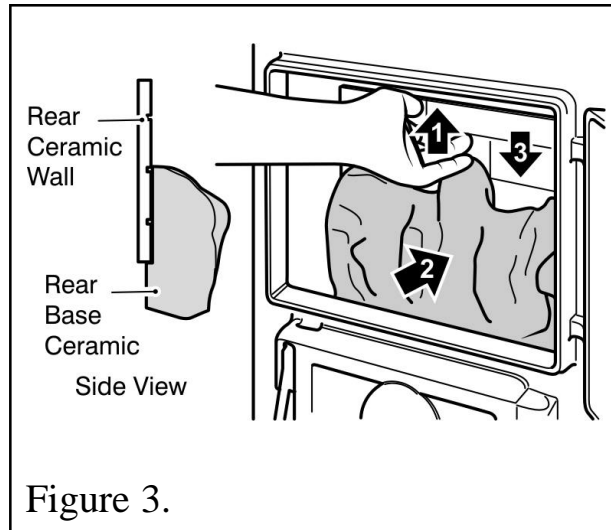

Figure 3.
4. The rear ceramic wall must be located onto the ledges at the back of the rear base ceramic (See figure 3). To achieve this,
hold the rear ceramic wall against the rear of the firebox at its uppermost position. Whilst holding the rear ceramic wall in this position locate the rear ceramic base coal into position (See figure 3). The rear wall can now be released. Ensure that the rear ceramic wall sits on the ledge at the back of the rear base coal.